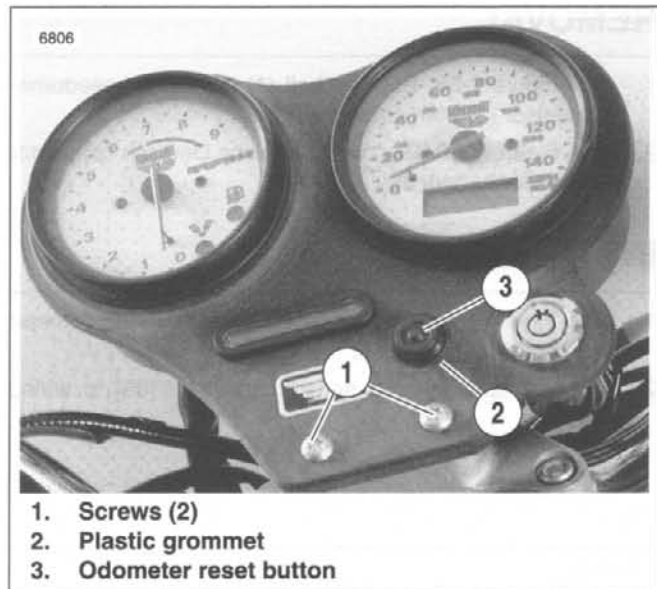
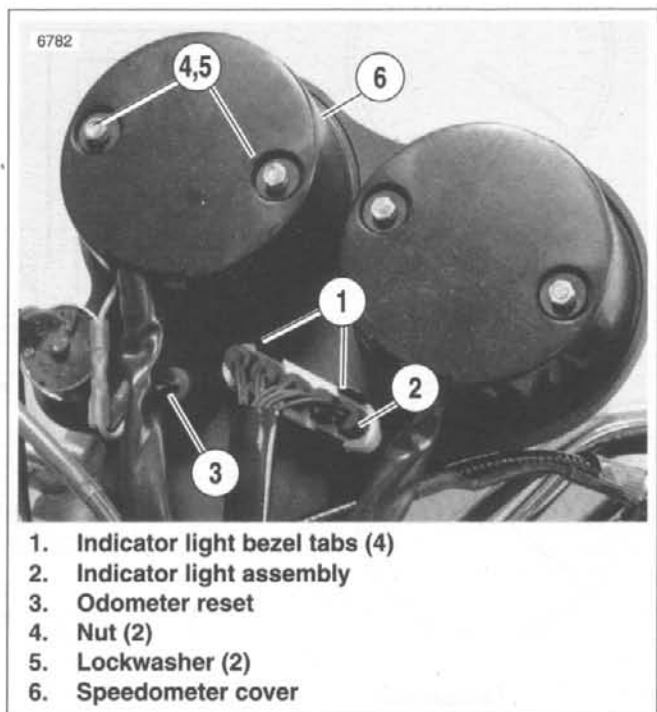

Figure 7-60. Dash Panel (Front)
Figure 7-61. Dash Panel (Back)
- a. See Figure 7-60. Pry off plastic grommet (2) from front of odometer reset button (3).
- b. See Figure 7-61. Remove odometer reset button (3) from back side of dash panel.
3. See Figure 7-60. Detach instrument support dash panel by removing two screws holding panel to instrument support clamp. Pull dash panel upward, but do not damage wiring.
4. See Figure 7-61. Remove two nuts (metric) (4) and lockwashers (5) from speedometer cover (6).
- d. See Figure 7-61. Install odometer reset button (3) from back side of dash panel.
- e. See Figure 7-60. Secure odometer reset button (3) on front of dash panel with plastic grommet (2).
5. See Figure 7-61. Install speedometer cover (6).
- b. Apply LOCTITE THREADLOCKER 243 (blue) to both nuts (metric) (4).
- c. Fasten cover (6) to speedometer using two nuts (metric) (4) and lockwashers (5).
6. See Figure 7-60. Position dash panel on instrument support clamp.
- a. Attach dash panel using two screws (1) to hold panel to clamp.